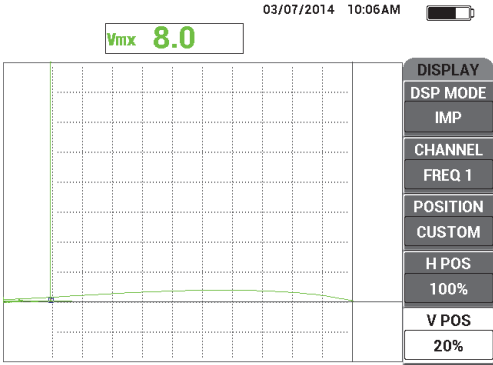

Figure 5-43 Adjusting V POS to create a vertical mark
- 4. While firmly pressing the probe on the 2.0 mm thick shim stack, increase the V POS (E key) to 100 % using the knob, and then decrease it back to 20 %. The instrument creates a recording in the form of a vertical mark on the screen (see Figure 5-43 on page 157).